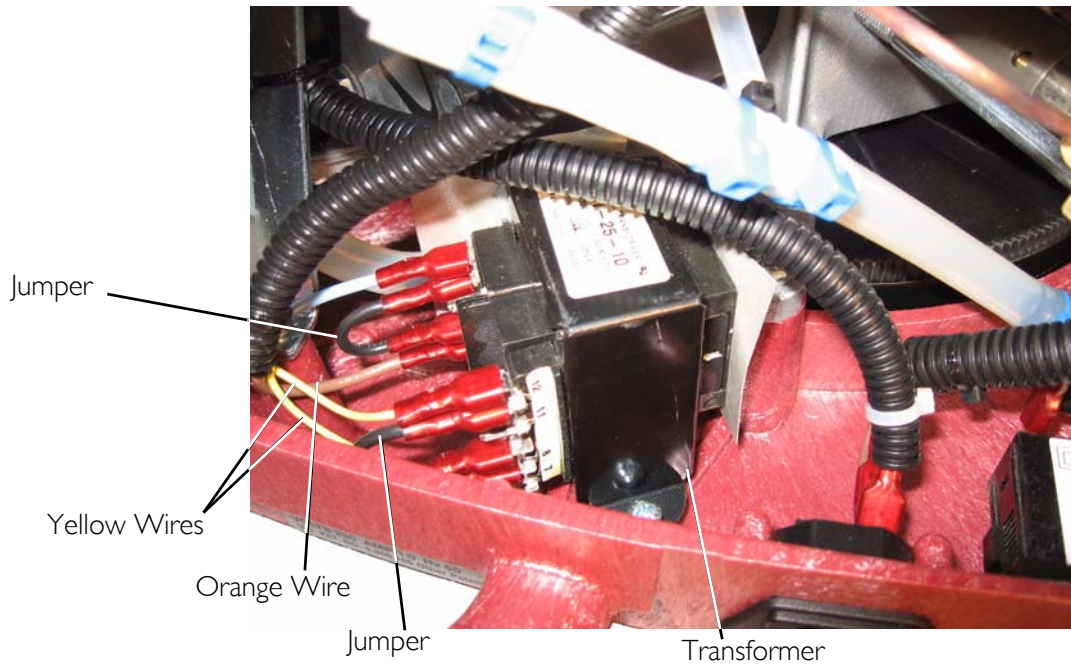

FIGURE 12.4 Timing Belt Replacement
12. Using diagonal cutters, cut the tie wrap that secures the inlet hose to the inlet of stage 1 (FIGURE 12.4).
13. Disconnect the oxygen inlet hose from the inlet of stage 1 (FIGURE 12.4).
14. Using diagonal cutters, cut the tie wrap that secures the oxygen inlet hose to the receptacle fitting (FIGURE 12.4).
15. Remove the oxygen inlet hose from the receptacle fitting (FIGURE 12.4).
16. Using diagonal cutters, cut the tie wrap that secures the oxygen sensor tubing to the oxygen inlet hose (FIGURE 12.4).
17. Remove the oxygen sensor tubing from the oxygen inlet hose (FIGURE 12.4).
19. Using needle nose pliers, disconnect the connectors from the transformer. See Detail "A" in FIGURE 12.4.
20. Using needle nose pliers, disconnect the two connectors from the power inlet (FIGURE 12.4).
21. Using needle nose pliers, disconnect the two connectors (not shown) from the hour meter (FIGURE 12.4).
22. Lift control panel assembly off of base and set aside (FIGURE 12.4).
5. Position control panel assembly on base (FIGURE 12.4).
6. Connect the two connectors (not shown) to the hour meter (FIGURE 12.4).
7. Connect the two connectors to the power inlet (FIGURE 12.4).
8. Connect the four connectors to the transformer as noted in STEP 18 on page 86 (FIGURE 12.4).
9. Connect the oxygen sensor tubing to the oxygen inlet hose and secure with tie wrap (FIGURE 12.4).
10. Connect the oxygen inlet hose to the receptacle fitting (FIGURE 12.4).
11. Secure the oxygen inlet hose to the receptacle fitting with a tie wrap (FIGURE 12.4).
12. Connect the oxygen inlet hose to the inlet of stage 1 (FIGURE 12.4).
13. Secure the hose with a tie wrap using a tie wrap gun set at #8 (FIGURE 12.4).